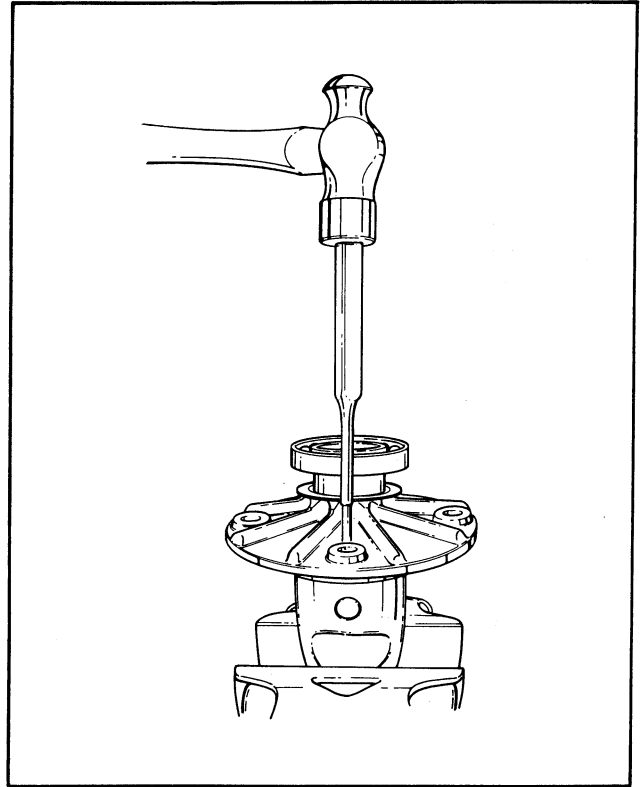

Figure 38 – Driving Out Lock Pin
- k. Drive out lock pin (31) which secures idler gear shaft (30) to differential case (24). See Figure 38.